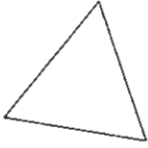

Fig 1
- f) Given the following Fig 1, outline the procedure to follow in order to check the dimensions of the three angles using CAD. [5]